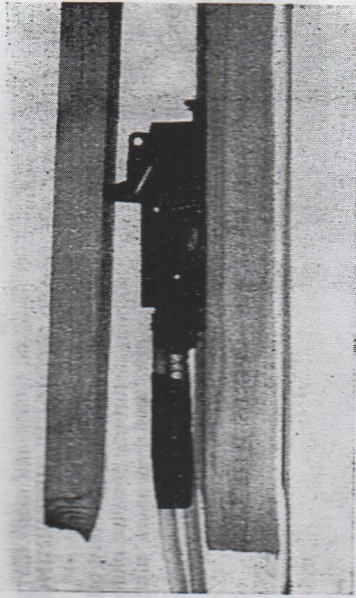

Figure 6
20. *Setting.* (See Figure 6.)